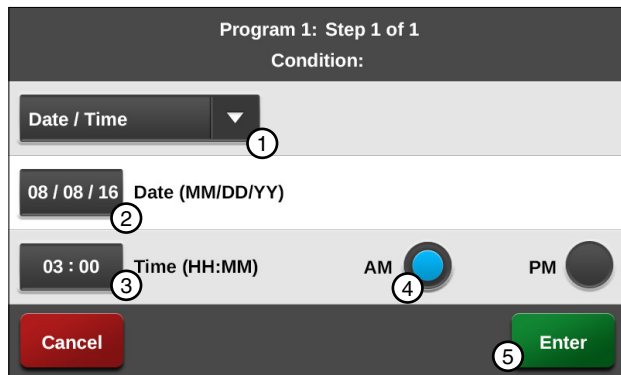

Figure 114-3 1. Date/Time Condition 4. AM
3. Program the start time on a date and time. Refer to Figure 114-3.